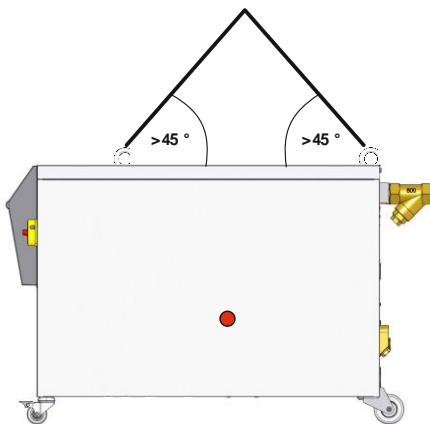

Fig. 7: Suspension points
1. Attach the ropes and straps according to Fig. 7.
2. Ensure that the unit hangs straight, pay attention to off-centre centre of gravity (→ ● Fig. 7).